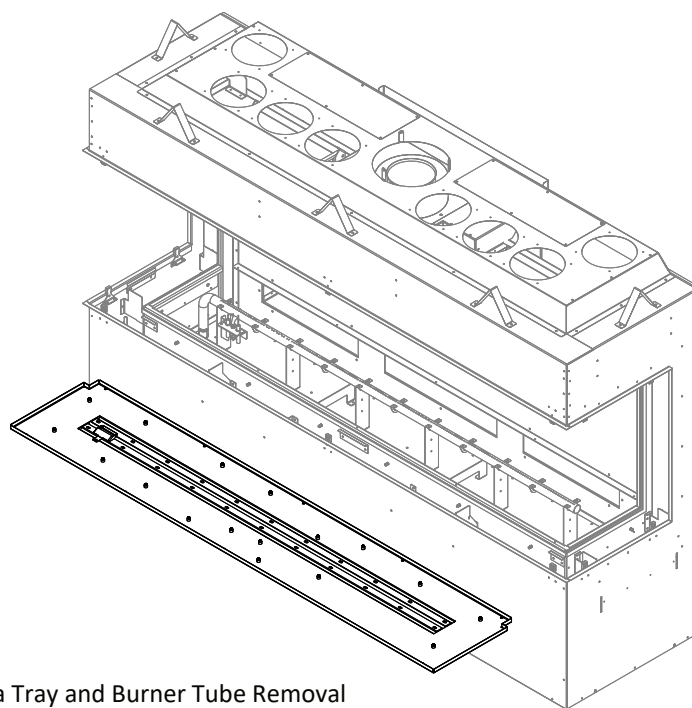

Figure 4.15 - Burner Media Tray and Burner Tube Removal
4. Remove all the sheet metal screws around the perimeter of the burner media tray and all sheet metal screws along the center of the burner. Remove the burner media tray and burner tube. Figure 4.15.